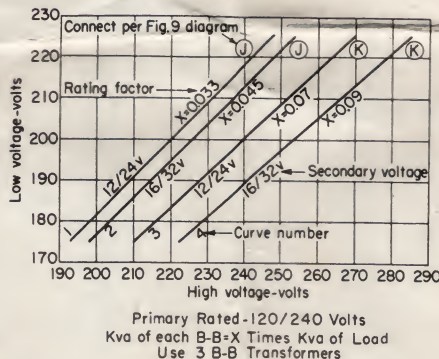

Fig. 7. Three-phase wye operation (175-285 volts)
STEP 3. Check the secondary voltage of each individual B-B transformer by referring to Fig. 7 or 8.